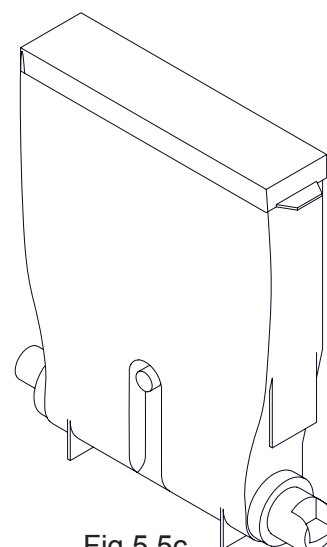

Fig.5.5c
- Container for ingredient Vanilla (see fig.5.5c)